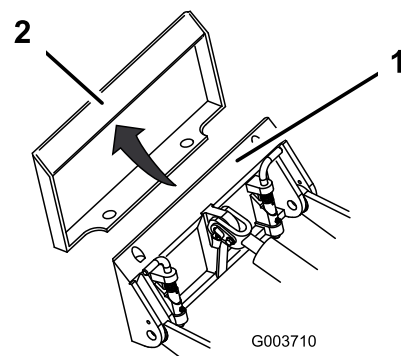

Figure 10
4. Position the mount plate into the upper lip of the attachment receiver plate (Figure 10).